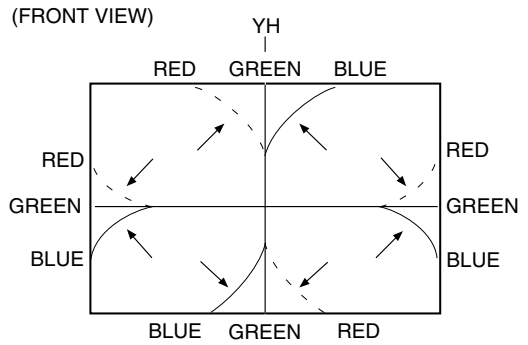

Fig. 7
3. Using the Y_H VR on the deflection yoke, match the Y_H (CROSS). (Fig. 7 and 9)